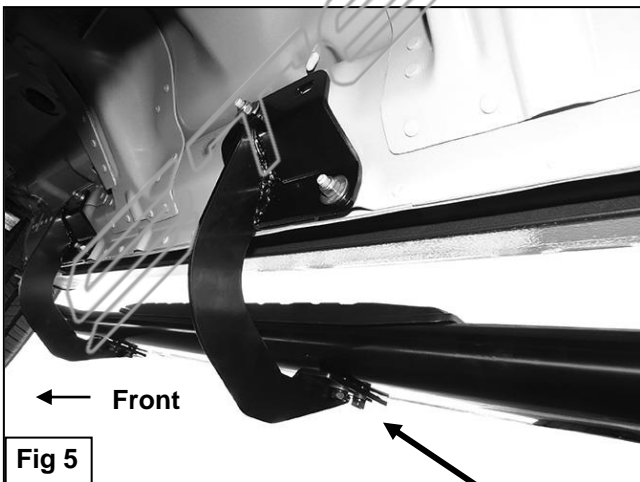

Fig 5
4. Repeat **Steps 1—3** to install the (2) remaining center and rear passenger side Brackets.
5. Select the passenger/right Sidebar. Carefully position the Sidebar onto the (3) Mounting Brackets.
**IMPORTANT:** Do not slide, (front to back or rotate), the Sidebar on the Brackets or damage to the finish on the Sidebar may result. Attach the Sidebar to the Mounting Brackets with (6) 8mm x 25mm Combination Hex Bolts, **(Figure 5)**. Do not tighten hardware.